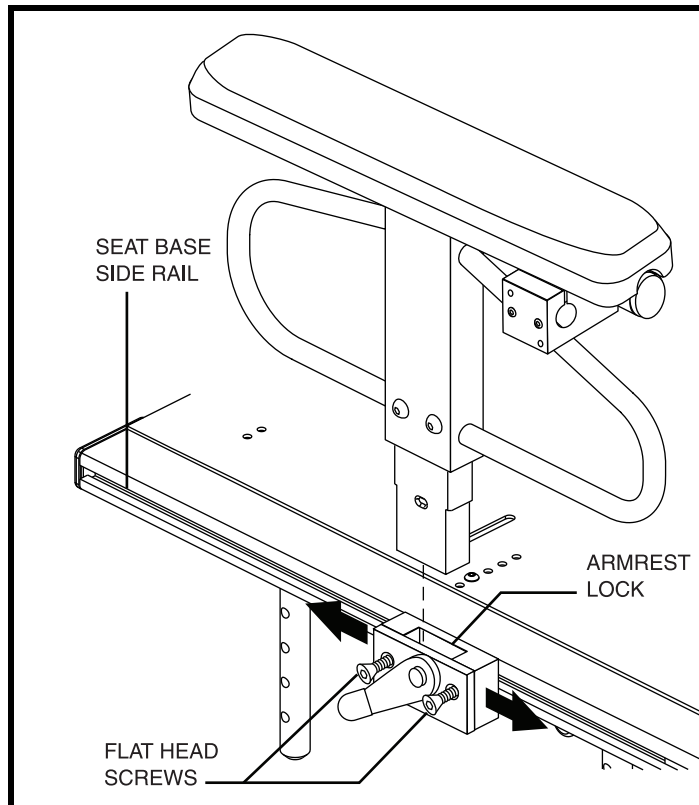

Figure 12. Armrest Position Adjustment
2. Loosen the flat head screws that fasten the armrest lock to the seat base side rail. See figure 12.
5. Install the armrest in the armrest lock. See figure 12.